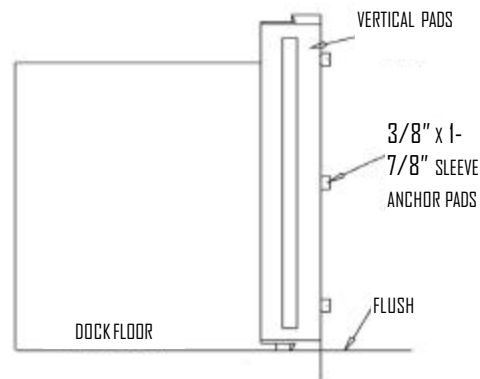

FIG. 4
- Make sure frames are plumb and square from bottom to top (Fig. 4, next page).
- Taking the prepared pads, level the bottom of pads with dock floor or at the top of dock bumpers on low docks (Fig. 4).